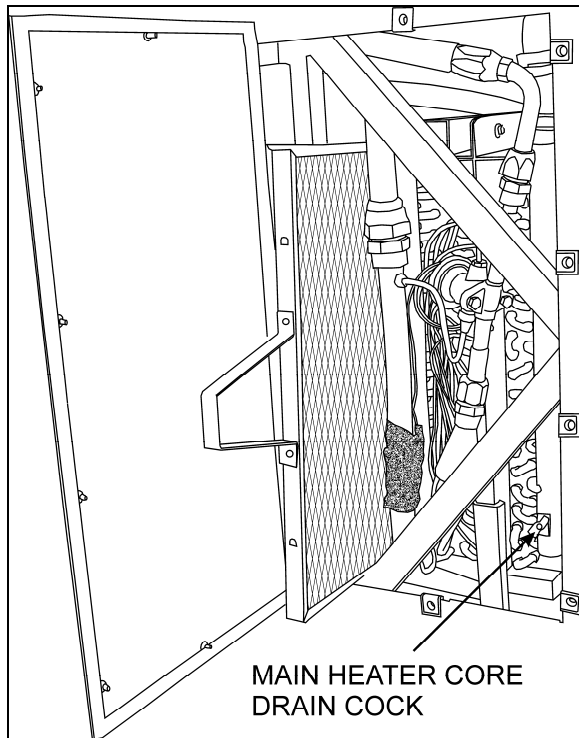

FIGURE 40: EVAPORATOR COMPARTMENT
4. Open drain cock in bottom of heater core, you can unfasten a hose connection on top of heater core (Fig.40) in order to allow air to enter while draining.